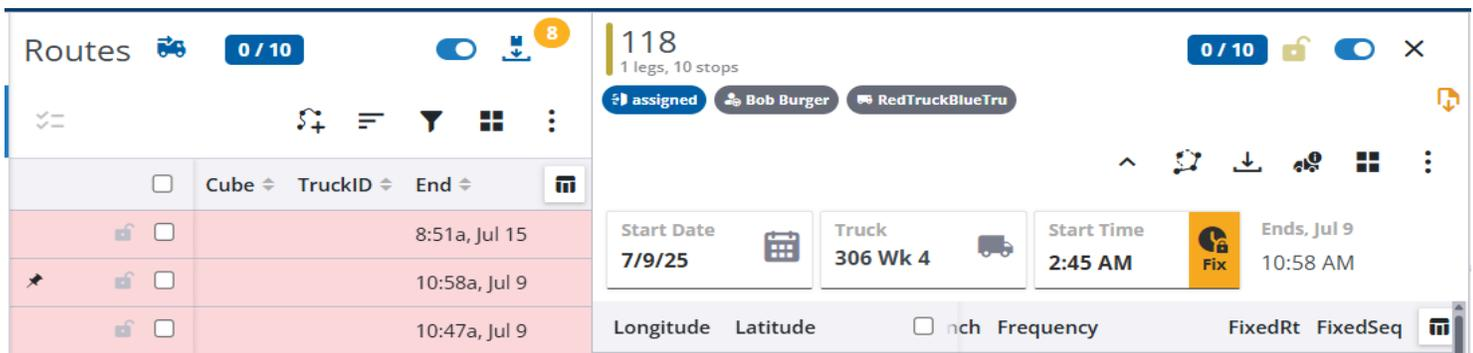

Figure 80 - Route and Stop grid view with Route 118 assigned
- The grid is a non-resizable two-pane window with all of the same functionality as the cards (See Figure 80 below).
- Scroll right (bottom of list) and click on the Configuration button (top right of list) to configure columns, fields, or volumes (see Figure 80 below). Configured data is retained between sessions.